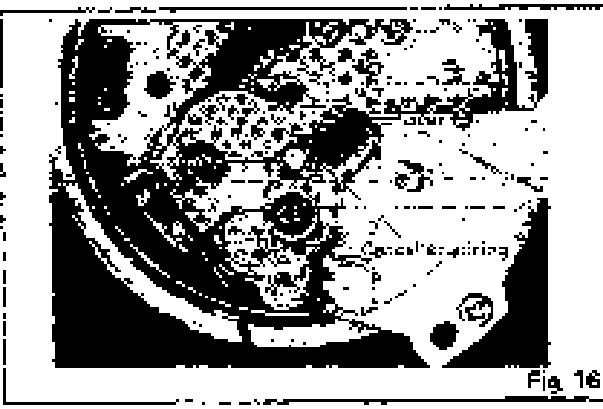

Fig. 16
3. Remove the PU base plate, adjust gear ② so that the canceller spring is in the position of Fig. 16.